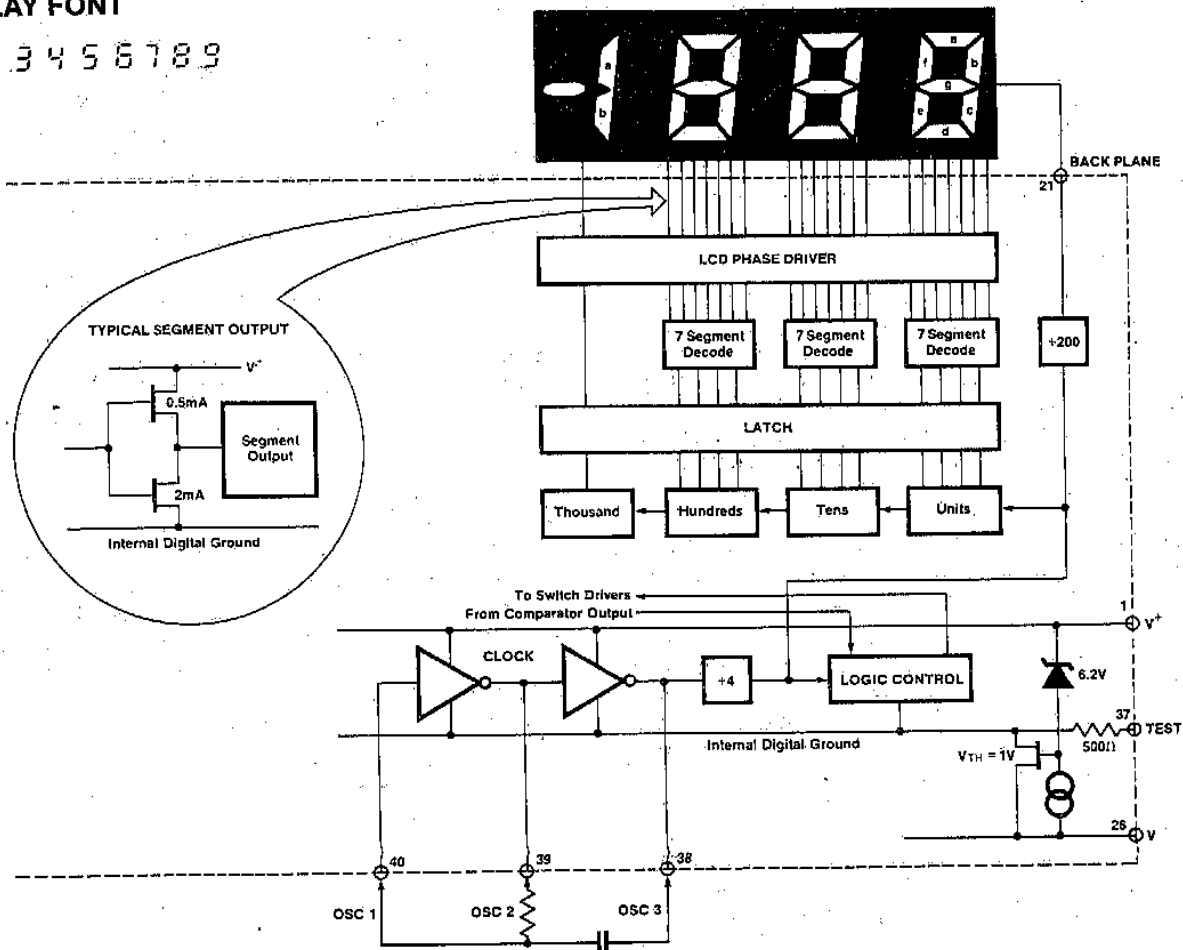

Figure 7: Digital Section 7106
Figures 7 and 8 show the digital section for the 7106 and 7107, respectively. In the 7106, an internal digital ground is generated from a 6-volt Zener diode and a large P channel source follower. This supply is made stiff to absorb the relative large capacitive currents when the back plane (BP) voltage is switched. The BP frequency is the clock frequency divided by 800. For three readings/second this is a 60 Hz square wave with a nominal amplitude of 5 volts. The segments are driven at the same frequency and amplitude and are in phase with BP when OFF, but out of phase when ON. In all cases negligible DC voltage exists across the segments.